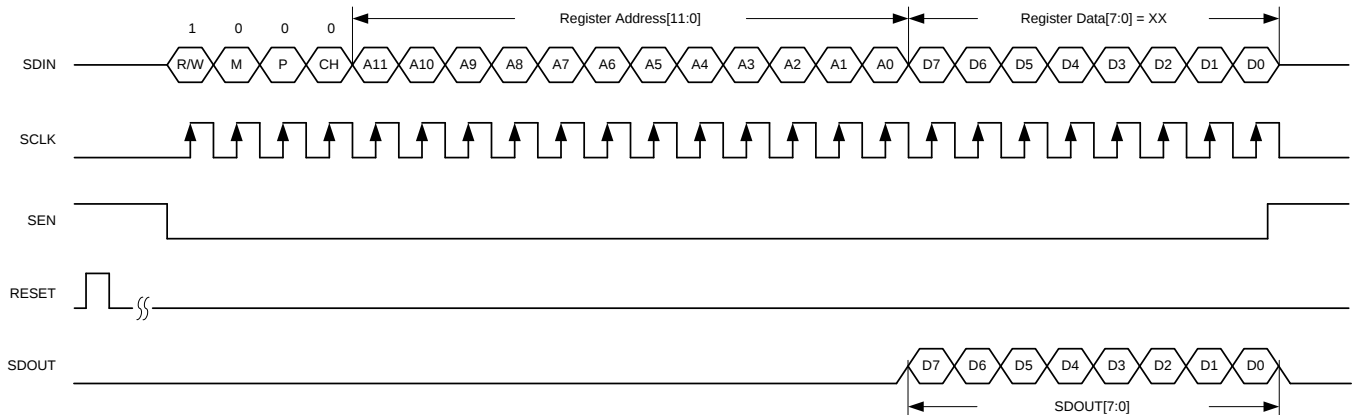

Figure 71. Serial Register Read Timing Diagram
4. Read back the register content on the SDOUT pin, as shown in Figure 71. When a page is selected, multiple read backs from the same page can be done.